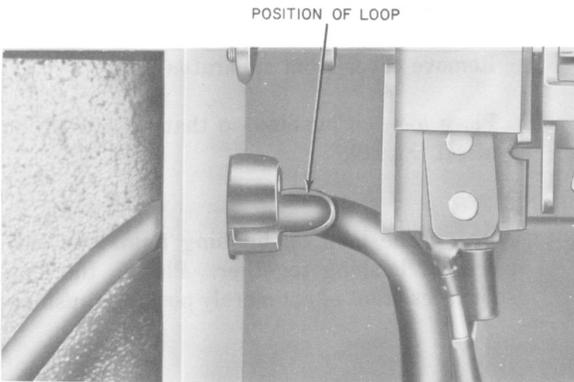

Fig. 9—Position of Loop on RM-730175 Bushing
- (1) Remove cover from apparatus unit.
- (2) Place loop on bushing so that it faces front of set (Fig. 9).
Note: Be sure loop on bushing is on front of set (Fig. 9).